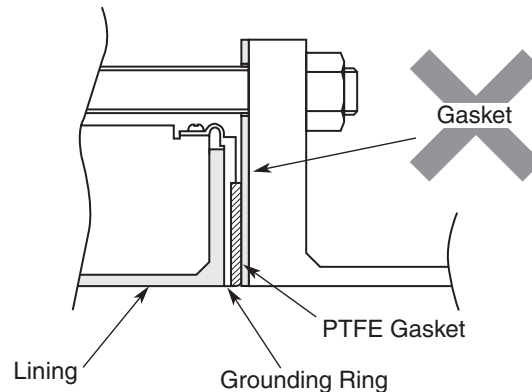

Figure 20. Installation on PVC Pipe with non-316 ss Grounding Ring
1. Install the flowtube as shown in Figure 20. See Table 3 for the appropriate fastening torque.